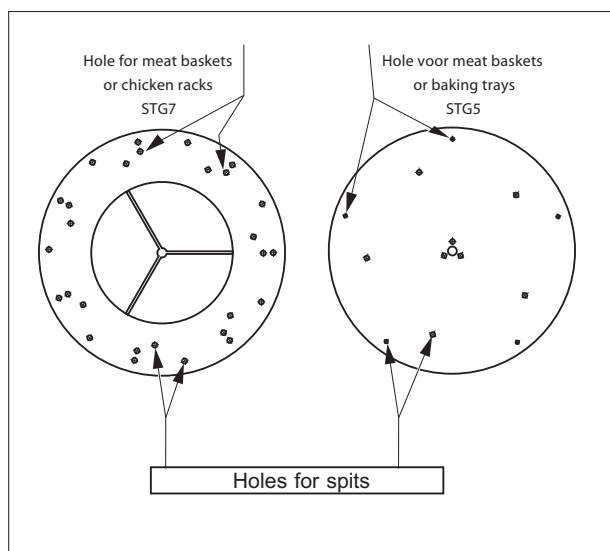

Figure 3.2
- ☒ Push the points of the spit into the appropriate holes in the rotor disk (see figure 3.2). Put the other end into the corresponding holes in the opposite disk.
- ☒ Push the ends of the baking trays into the correct holes in the rotor disks (see figure 3.2).
- ☒ Push the ends of the meat baskets/chicken racks in the corresponding holes of the rotor disks (see figure 3.2).